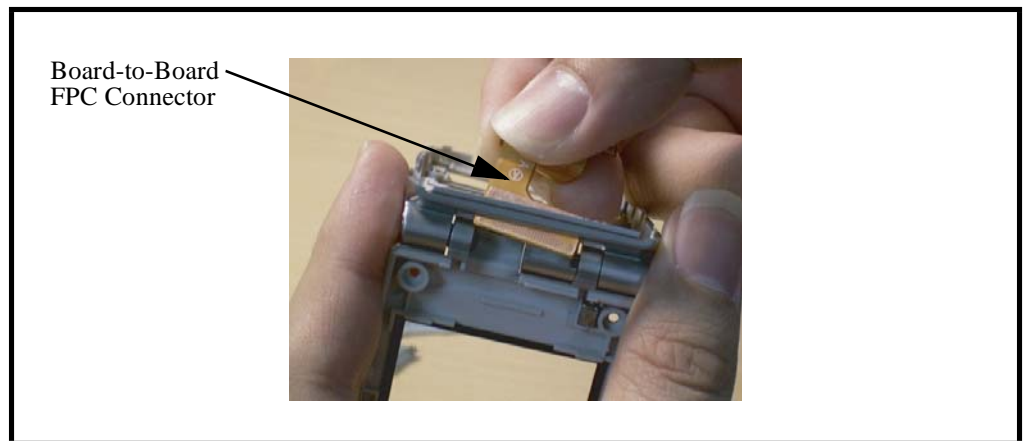

Figure 28. Removing the Board-to-Board FPC Connector
2. Have a right angle between the front housing and the rear housing and then remove the board-to-board FPC connector from the phone as shown in Figure 28.